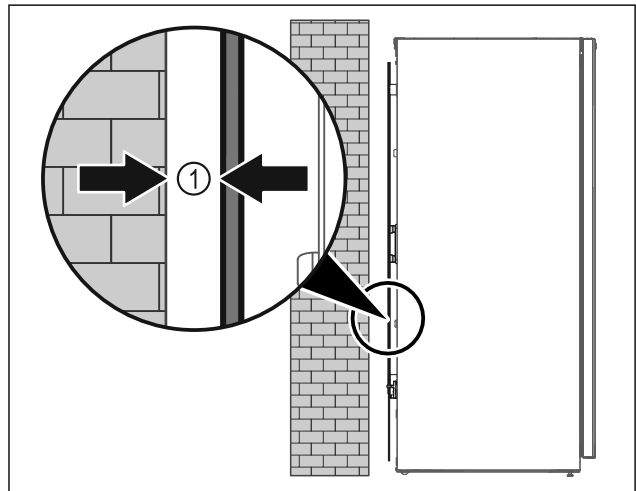

Fig. 6
- Set up the appliance either free-standing or directly against a wall at a minimum distance of 5 mm Fig. 6 (1).